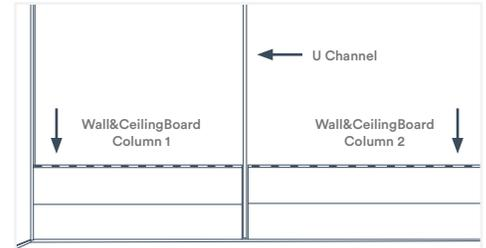

Fig. 12
- If your wall is longer than your panels, you'll need to join them with an H channel snap-in kit (Fig 12)